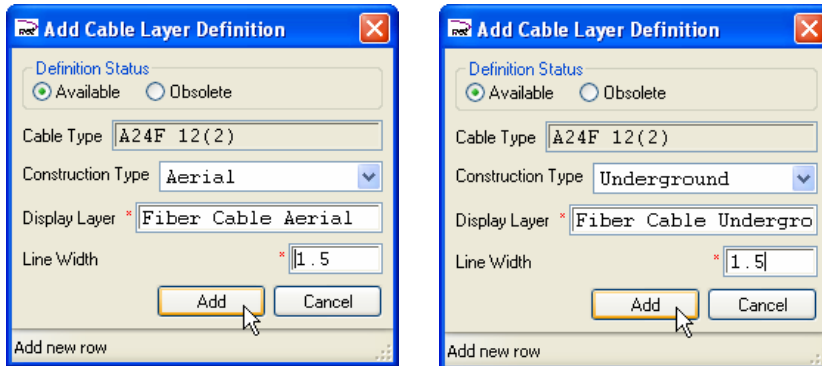

Figure 105 – New Cable Layer Entry Form
- Click on the **Add** button and fill in the field values as shown in the left dialog box below, then close this by clicking on its **Add** button. Repeat this step but this time, fill in the values shown in the right dialog box in Figure 105, below.